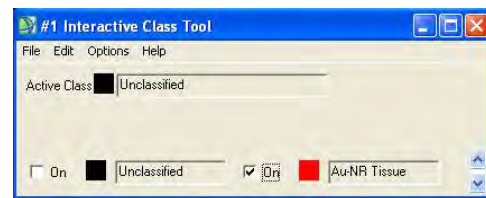

Figure 25. activating the overlay feature
- a. Click on the tab beside the red box marked AU-NR Tissue (see Figure 25)